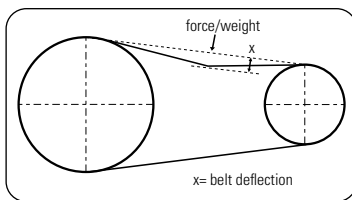

FIGURE 8.3 - BELT DEFLECTION
- Position the motor on base **18** and align the motor pulley with the moved pulley (FSB 16), with the help of a ruler and note the deflection of the belt(s) and alignment, as indicated in Figures 8.3 and 8.4 (the belt yield (x) from 9 to 13mm upon manual force in its middle point).
2.1 Verify the voltage and the state of the belt(s) (Figures 8.3 and 8.4).